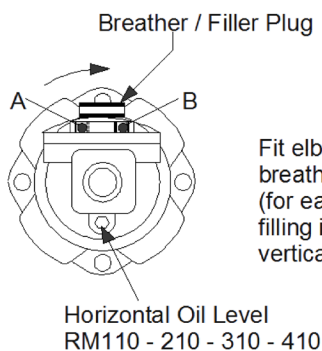
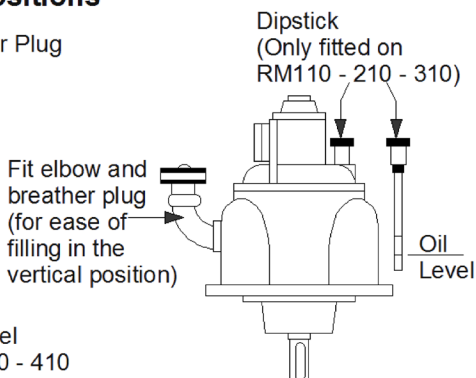

Fig. 1
Fig. 2
The motor is normally mounted in a horizontal position with the filler / breather plug towards the top (Fig. 1) It may also be mounted with the shaft vertically downwards (Fig. 2). As supplied the motors have been run up and tested using protective oil and then drained for transit. It is vital that each motor is re-filled to the correct oil level as shown below. The RM 110 - 310 motors have a dipstick for vertical mounting (Fig. 2) and the lower mark on this dipstick provides the oil level. Oil levels are achieved on motors in the horizontal position by filling to the plugs marked 60 (RM 110-410 models) and plug 26 (fitted in housing 3 RM510-610 models). (numbers indicate parts on exploded view) The vertical oil level position for the RM410, RM510 and RM610 motors is a combined horizontal drain and vertical level plug (part number 26) To fill motors with oil remove the combined breather and oil filler plug part number 46. Ensure breatherplug is in the vertical position. It may be necessary to fit an elbow between the breather plug and the motor (see Fig. 2).
Mount motor in operating position. Check oil level, (as seen on Fig. 1). Before connecting to the air supply blow out the air lines to remove any loose scale, swarf or abrasive dust which may be present. Remove the red plastic dust-caps and the 'O' ring seal (45). For unidirectional operation check the required direction of rotation and connect the air supply line to the appropriate port on the inlet / exhaust adaptor plate (72) leaving the other port open or pipe downwards if exposed to the atmosphere. The motor should not be allowed to race. Always operate within the catalogue speed curves.